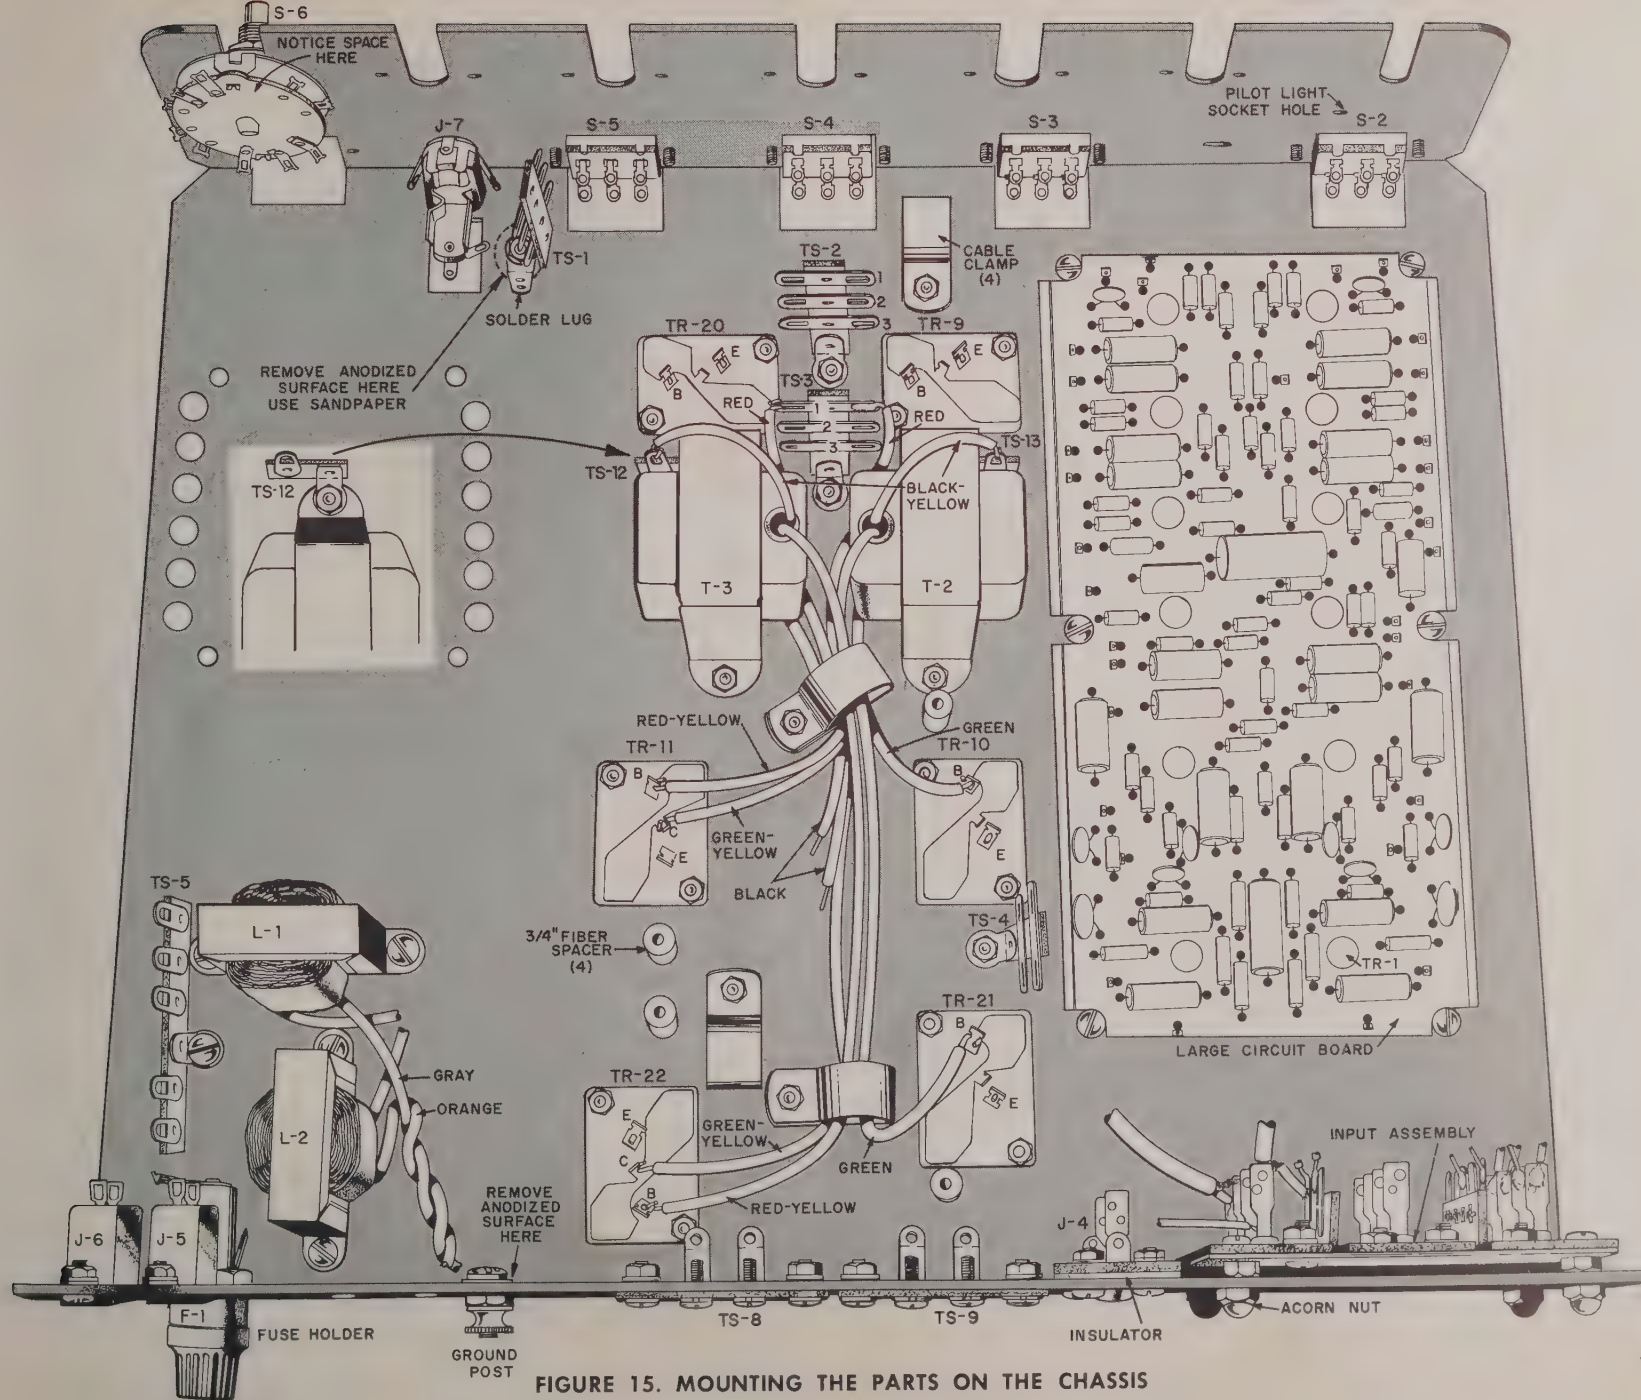

FIGURE 15. MOUNTING THE PARTS ON THE CHASSIS
SEE FIGURE 15.
- ✓ Driver transformer T-3 and TS-12, a 1-terminal strip. Position the transformer and terminal strip as shown in the detail on Figure 15. Mount with two 6-32 x 5/16" screws, lockwashers and nuts.